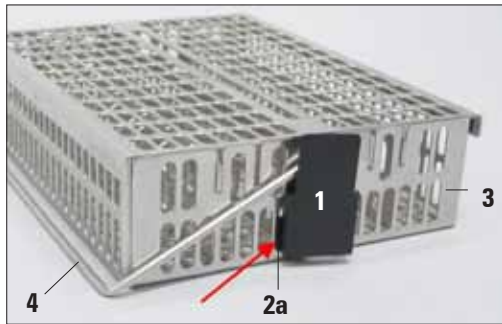

Fig. 9
- Insert the left lug (2a) of the anti-reflection clip (1) into the seventh hole (from the left) of the lower oval openings (Fig. 9).